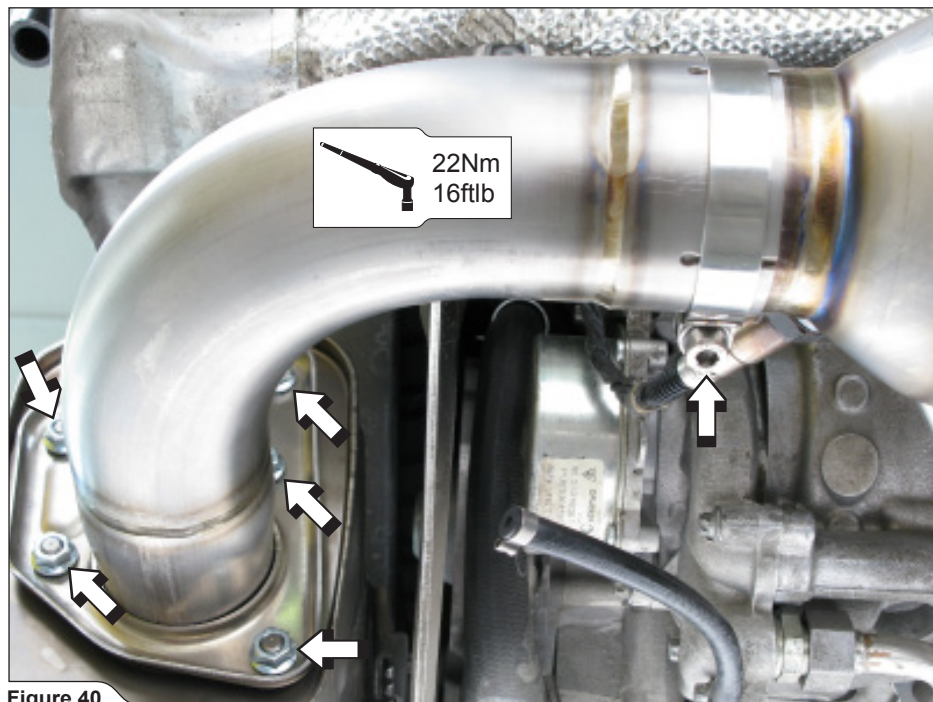

Figure 40
22. **For Evolution-Race:** align the link pipes and tighten all M8 nuts on Akrapovič muffler flanges and bolts on metal clamps to a specified torque (**Figure 40**).